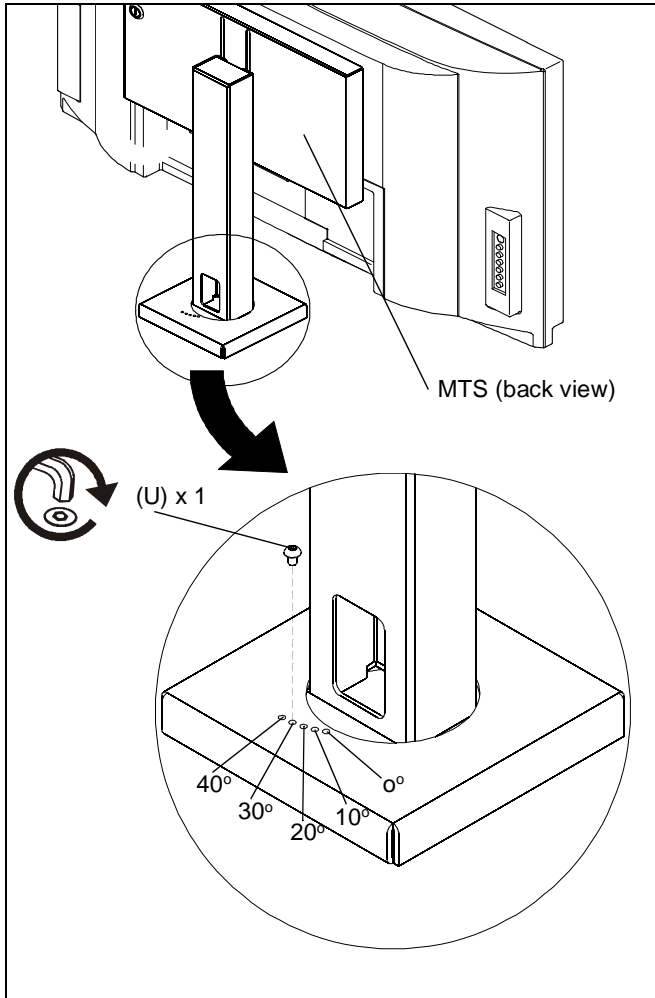

Figure 7
1. Rotation is factory-set at 270° but can be changed to 0, 10, 20, 30 or 40° to avoid damage to furniture or walls from display hitting them when rotated. (See Figure 7)
2. Determine amount of rotation allowed in installation and insert one 10-24x1/4" button head security screw (U) into the appropriate hole. Tighten to secure rotation amount. (See Figure 7)